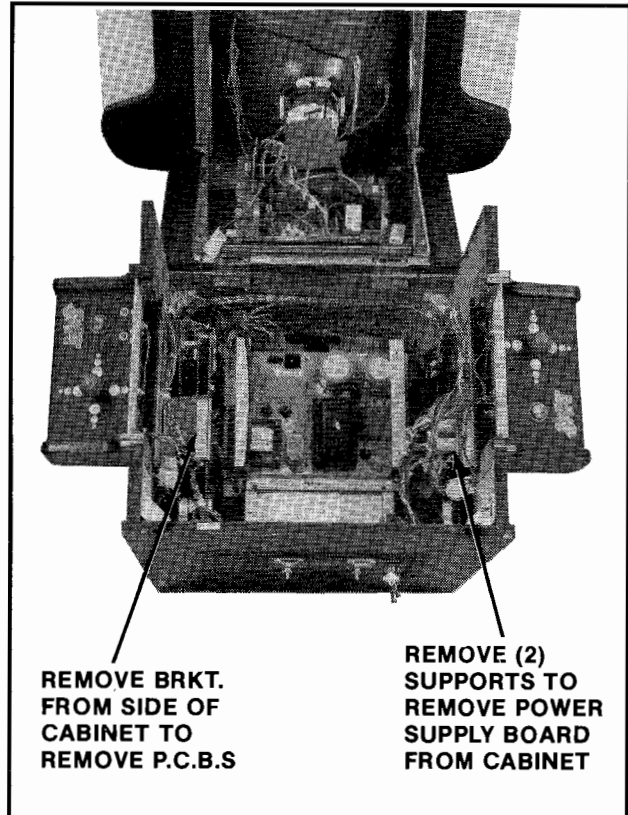

Figure 4-11 Replacing P.C.B.s — Cocktail
### 2. COCKTAIL TABLE MODEL: See Figure 4-11.
- Remove the linear power supply board. See Figure 4-11.
- To remove the P.C. boards from the card rack. See Figure 4-11.